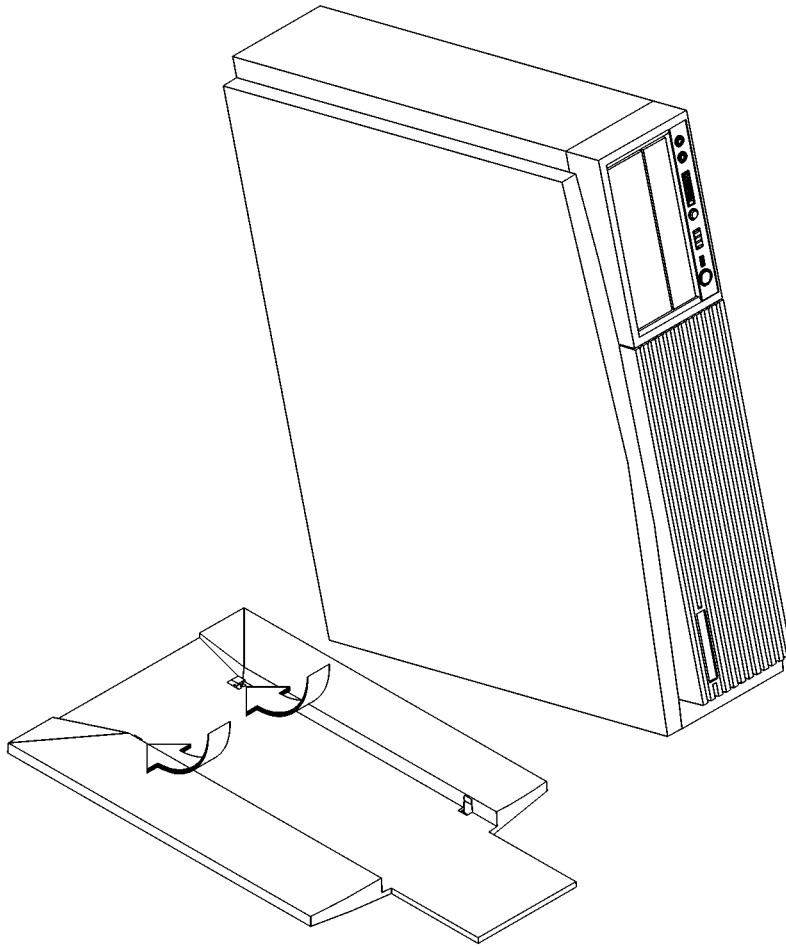

Figure 17
- 7 Replace the system unit in the floor stand, as shown in Figure 17.